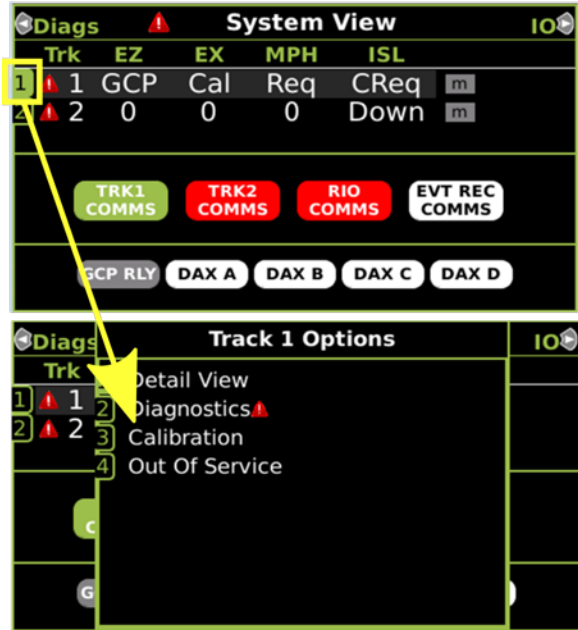

Figure 4 Opening the Calibration Window
Step 31	Transfer the information written in Figure 6 and Figure 7 below onto Figure 1 and Figure 2 of the Model 5000 GCP Application History Card, SIG-00-04-21 and Figure 1 and Figure 2 of the Model 5000 GCP System Cutover Test Procedure and Check Off Sheet, both of which are found at the back of the Model 5000 GCP Family Application Guidelines Manual, SIG-00-13-03. If the initial settings of the GCP were changed or equipment changes were made such that require recalibration of the GCP, Approach, and Linearization, place the updated Computed Distance and Linearization Steps data in Figure 3 and Figure 4 of the History Card.